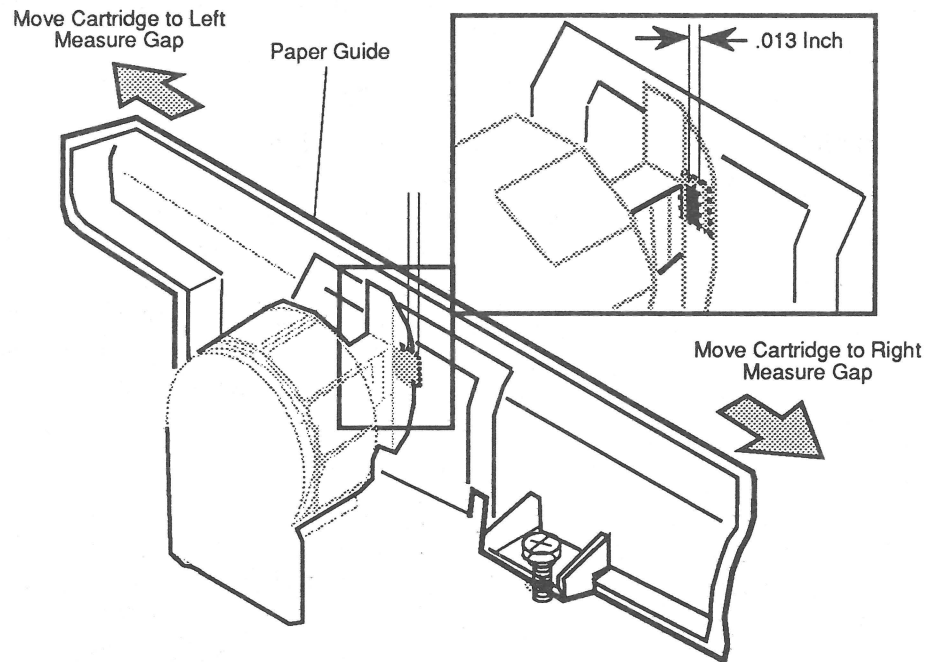

Figure 5-3 Print Head/Paper Guide Gap
3. Push the carrier assembly to the far right. Then, using a feeler gauge, measure the gap between the front of the print head and the metal shield on the paper guide (**Figure 5-3**). Record the measurement.